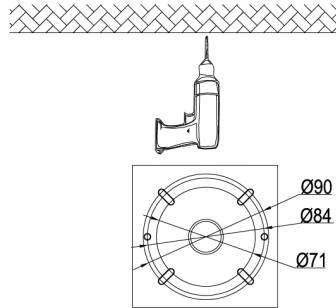

Figure 2-3
3. Drill holes on the ceiling according to the fit plate. Figure 2-3